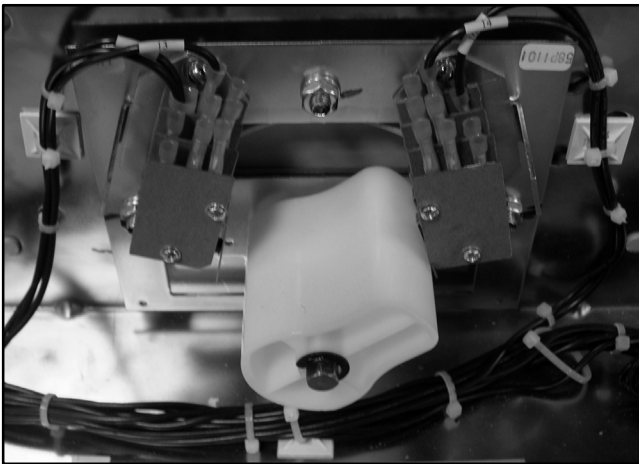

Figure 7-57 Microswitch Fast-On Connectors
6. Disconnect the fast-on connectors. See Figure 7-57.